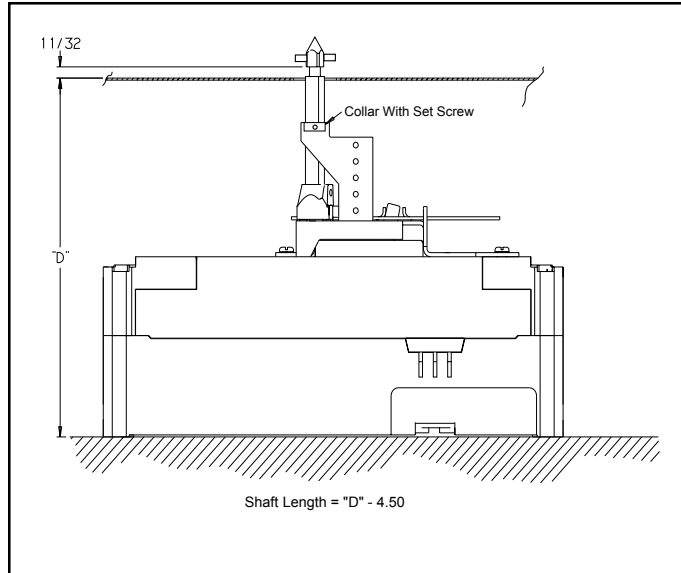

Fig. 3-1 Cutting Shaft to Length and Collar to Shaft
2. Mark shaft, measuring length beginning at the pointed end and cut to correct length. (Fig. 3-1)
3. After the hole is drilled, close enclosure cover allowing the shaft to stick through the opening. Check this dimension per Figure 3-1.
4. Close enclosure door. Place gasket/template supplied in hardware kit. Place the template over the shaft ensuring the text/wording is facing outward. With the use of your fingers remove any play by rotating the shaft in a clockwise motion. Align the template cutout with the shaft profile and mark the handle mounting holes. Drill (4) .281" (7.0mm) diameter holes.